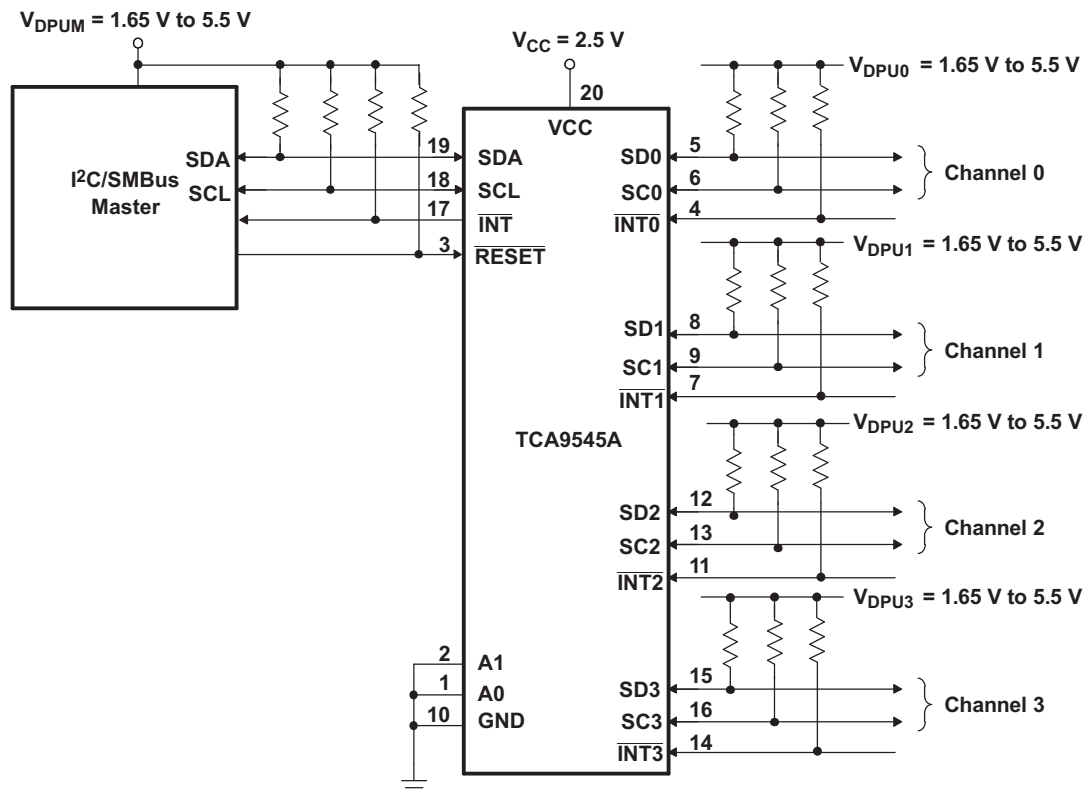

Figure 16. TCA9545A Typical Application Schematic
Figure 16 shows an application in which the TCA9545A can be used.
**Figure 17** shows the voltage characteristics of the pass-gate transistors (note that the graph was generated using data specified in the Electrical Characteristics section of this data sheet). In order for the TCA9545A to act as a voltage translator, the  $V_{pass}$  voltage must be equal to or lower than the lowest bus voltage. For example, if the main bus is running at 5 V and the downstream buses are 3.3 V and 2.7 V,  $V_{pass}$  must be equal to or below 2.7 V to effectively clamp the downstream bus voltages. As shown in **Figure 17**,  $V_{pass(max)}$  is 2.7 V when the TCA9545A supply voltage is 4 V or lower, so the TCA9545A supply voltage could be set to 3.3 V. Pull-up resistors then can be used to bring the bus voltages to their appropriate levels (see **Figure 16**).